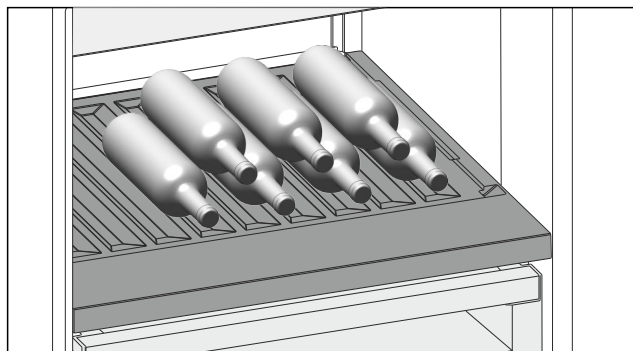

Fig. 103
- Place bottles in the back row with their bases against the back wall. (see Fig. 103)